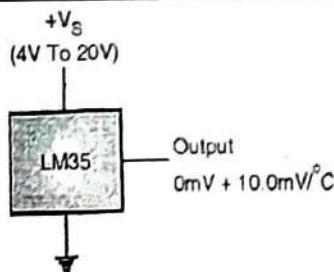

Fig. 10.7.1 : Circuit diagram for the LM35 basic temperature sensor (+2° C to +150° C)
- As shown in the Fig. 10.7.1 the connection for LM35 is very simple. Also the output scale is linear with a change of $10\text{mV}/^\circ\text{C}$.